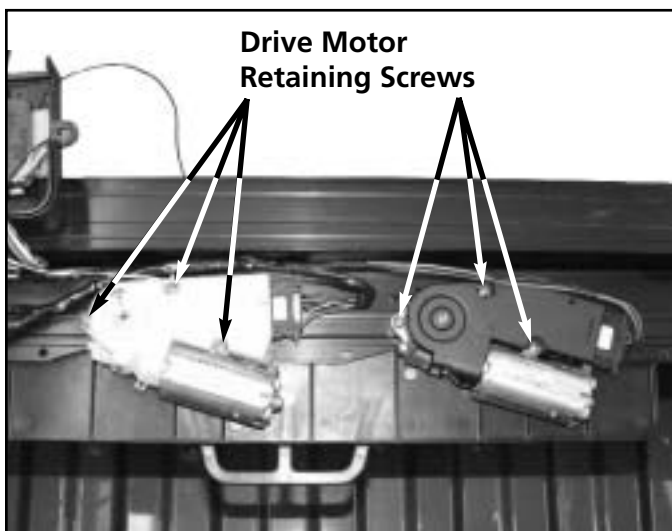

Figure S-54
10. Remove the six (6) drive assembly retaining screws (Three screws per drive assembly). See figure S-54.
12. Position the new bottom cover under the rail and insert the six (6) drive assembly retainer screws and tighten. Refer back to figure S-54.